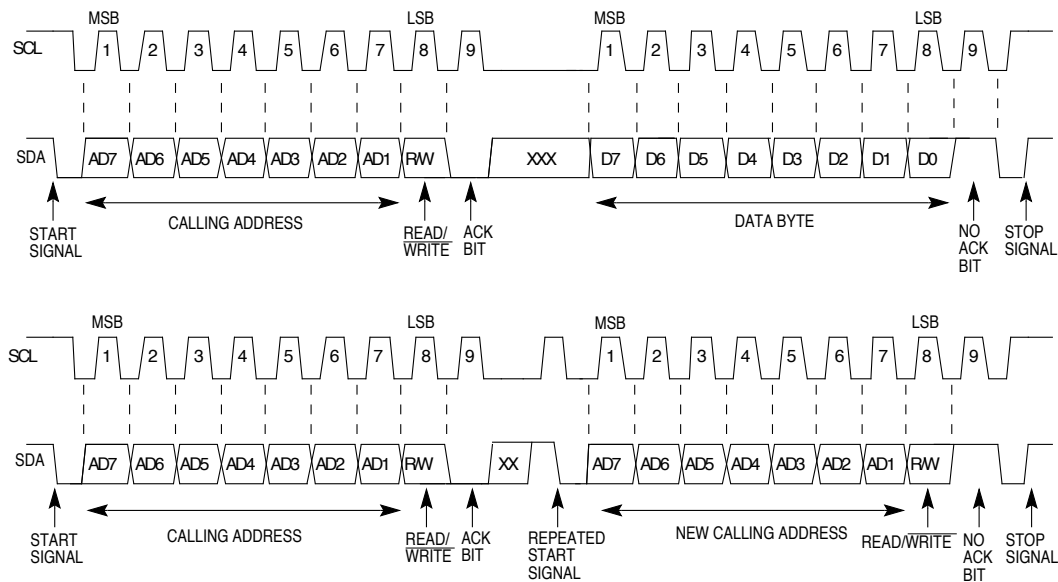

Figure 12-2. M-Bus Standard Communication Protocol
Normally, a standard communication is composed of four parts: (1) START signal, (2) slave address transmission, (3) data transfer, and (4) STOP signal. They are described briefly in the following sections and illustrated in Figure 12-2.
When the bus is free, i.e., no master device is engaging the bus (both SCL and SDA lines are at logic high), a master can initiate communication by sending a START signal. As shown in Figure 12-2, a START signal is defined as a high-to-low transition of SDA while SCL is high. This signal denotes the beginning of a new data transfer (each data transfer can contain several bytes of data) and awakens all slaves.